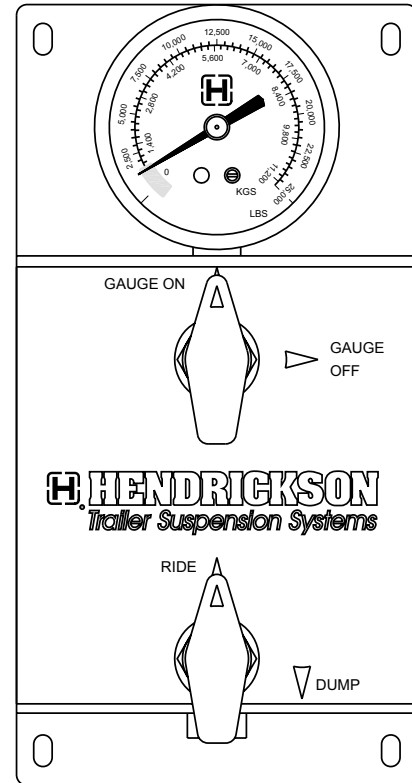

Figure 1. Gage valve to GAGE ON position
3. Rotate the upper ball valve counterclockwise to the GAGE ON position (Figure 1).